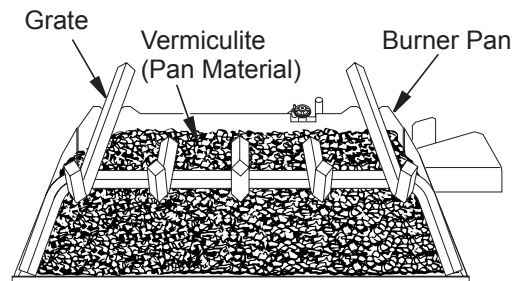

Figure 20 - Place Vermiculite on Burner Pan per Instructions
1. Open bag(s) of vermiculite and fill until it is even across burner pan (see **Figure 20**).